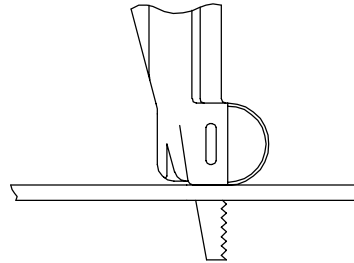

Figure 3 (Dwg. TPD1194)
4. When cutting metal from an edge, hold the Saw as shown in Figure 3, keeping the Saw Guide firmly against the work to prevent vibration of the metal and blade chattering. When making direct cuts into metal, first chisel or drill a starting hole.